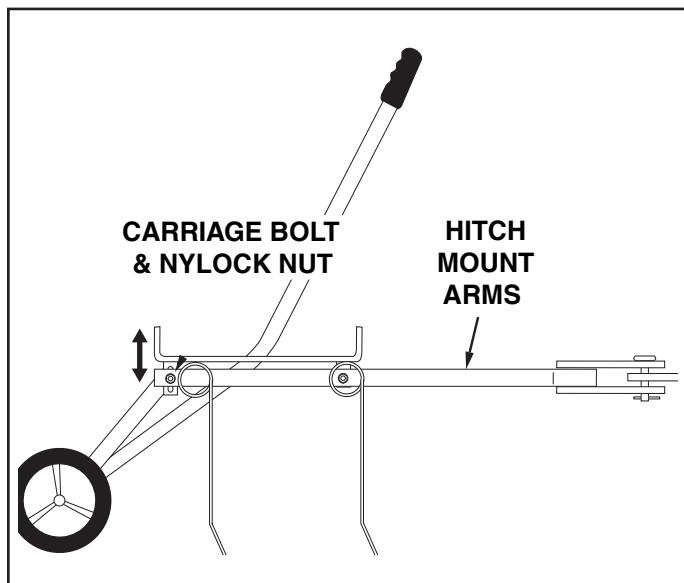

FIGURE 9
1. Move the towing vehicle onto a level surface, such as a driveway or garage floor and attach the tine dethatcher to the vehicle hitch. See figure 9.
2. To adjust the spring tine shield, lower the de-thatcher into operating position using the lift handle. Loosen the two hex nuts and carriage bolts which fasten the rear of the hitch mount arms to the hitch arm mount brackets. Adjust the tine shield until it is level and both the front and rear spring tines are in contact with the ground. Retighten the hex nuts. See figure 9.